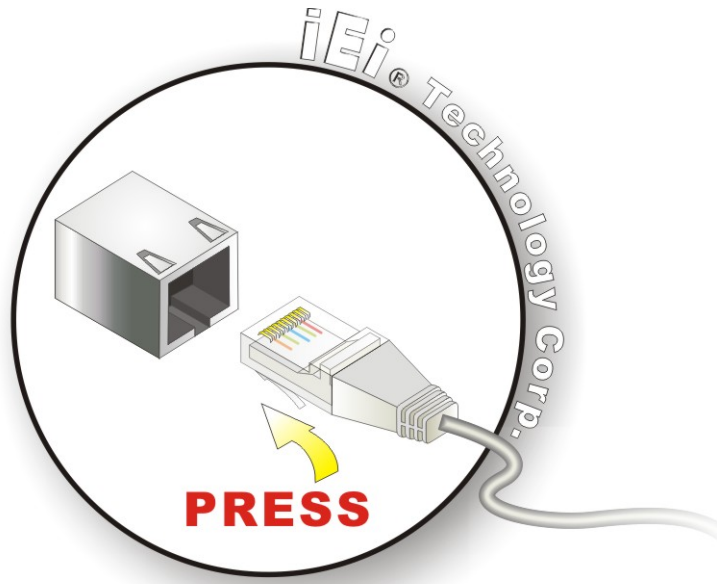

Figure 4-16: LAN Connection
Step 2: Align the connectors. Align the RJ-45 connector on the LAN cable with one of the RJ-45 connectors on the WAFER-PV-D5252/D4252/N4552. See **Figure 4-16**.